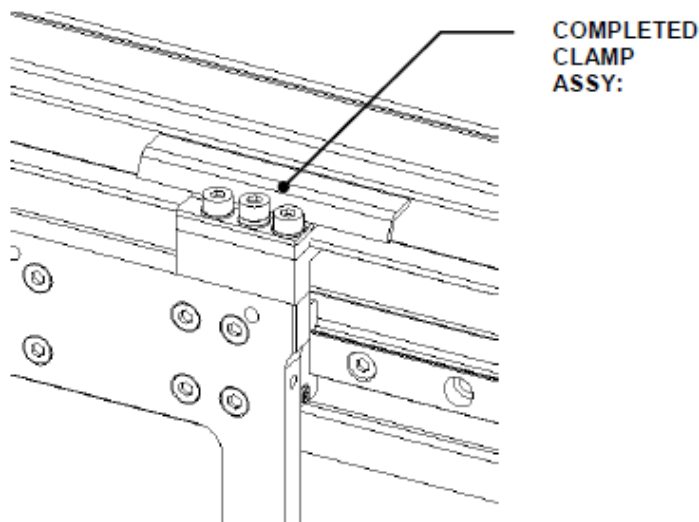

Figure Y-10: Completed Clamp Assembly
5. Reaffix the clamp assembly. The completed clamp assembly is shown in Figure Y-10.